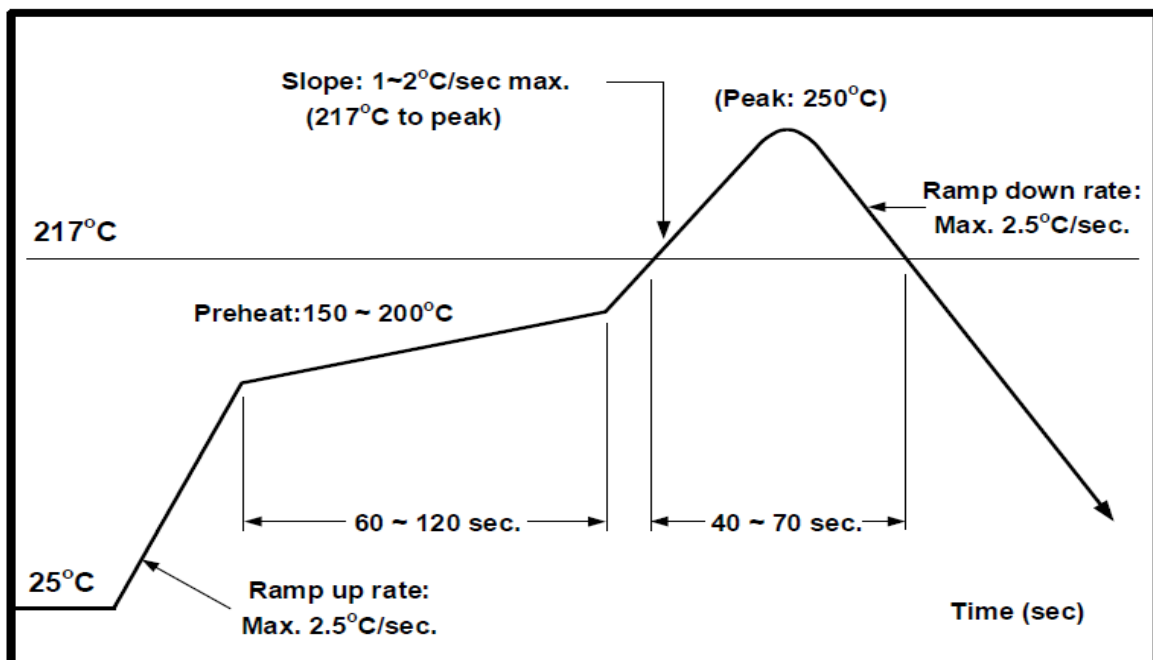

Figure 22 : Solder reflow profile
- Allowable reflow soldering times: Three times based on the reflow soldering profile as shown in Figure 22.
- Temperature profile: Reflow soldering shall be done according to the temperature profile as shown in Figure 22.